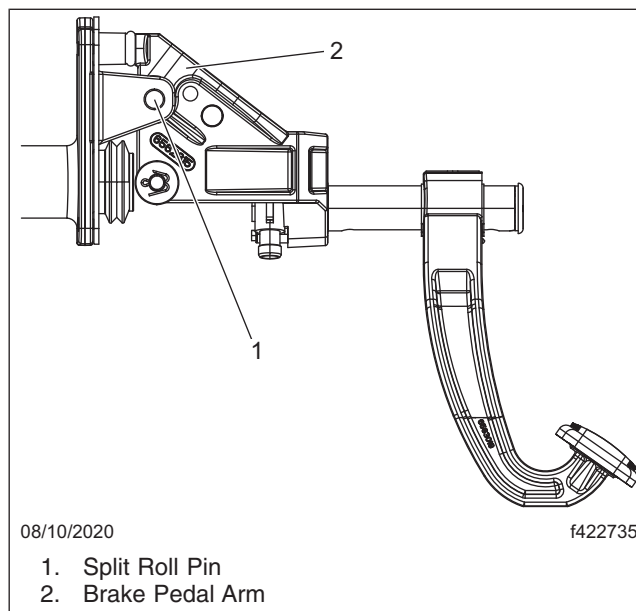

Fig. 12, Brake Pedal Disassembly
11. To disassemble the brake pedal, remove the split pin from the roll pin, then tap on the roll pin from the passenger side and take the roll pin out from the driver side. See Fig. 12. Go to **installation** below.
5. If the pedal was not assembled as instructed in step 1, install the new split pin into the brake pedal roll pin from inside the cab. See Fig. 12.